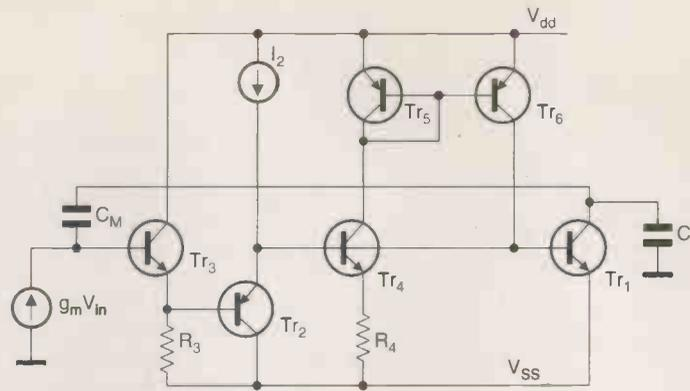

Fig. 10. N-p-n side of the Widlar output stage designed specifically for low-voltage analogue applications.
**Widlar output stage.** The Darlington stage is not appropriate if the supply voltage is lower than 1.6V. For very low-voltage circuits, a suitable lower-voltage output stage has to be developed. Such a circuit is shown in Fig. 10. It is known as a 'Widlar output stage,' Widlar being the name of its inventor.8
The Widlar current-boosting circuit shown in Fig. 10, consisting of  $Tr_4$ ,  $Tr_5$  and  $Tr_6$ , meets all these requirements. Its operation is based on a careful control of the embodied positive feedback loop, tamed by the emitter resistance of driver  $Tr_2$ . This positive feedback mechanism greatly